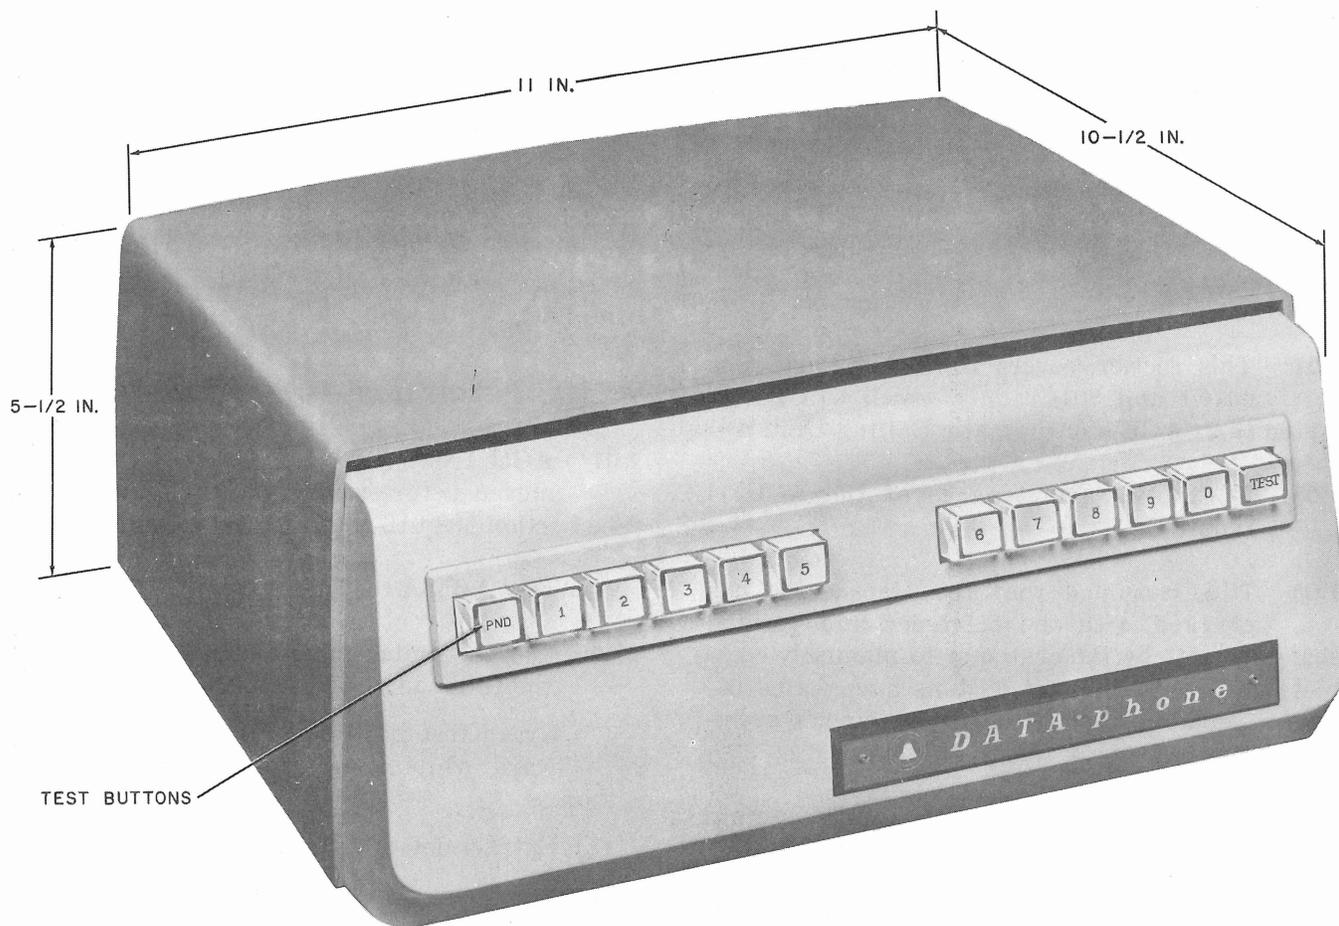

Fig. 1 — Data Auxiliary Set 801C Type — Front View
- (1) Grasp test button (Fig. 1) and pull outward while applying slight rocking motion.
- (2) Extract defective lamp with 553A tool.
- (3) Start new 52A lamp into socket and push into place.
- (4) Restore test button by pushing in until it snaps into place.